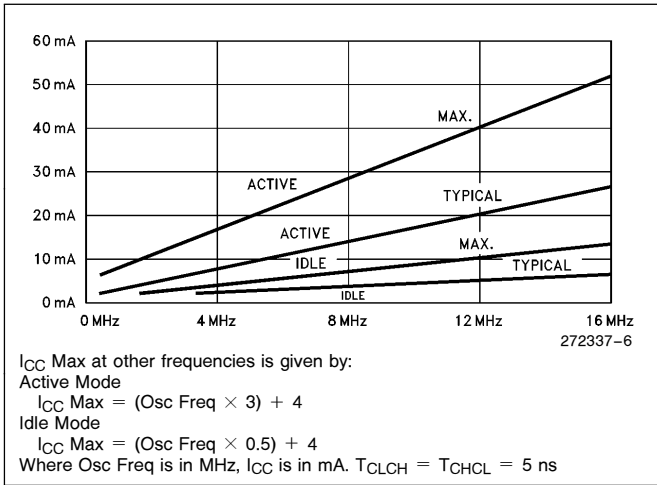

Figure 6.  $I_{CC}$  vs Frequency
- See Figures 6–10 for test conditions. Minimum VCC for Power Down is 2V.